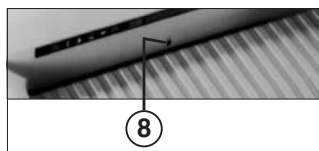

fig. 3
- 8 = Light barrier (forward operation) (fig. 3)**